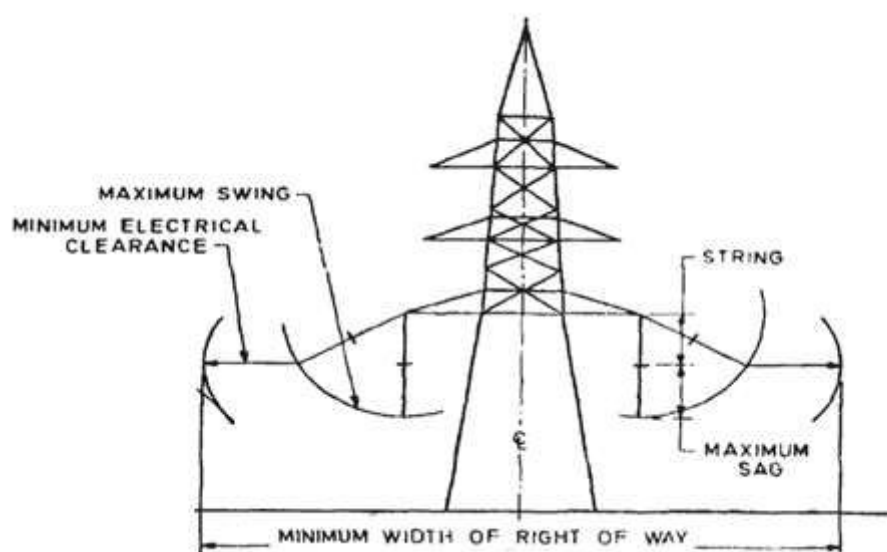

Figure-1
- (iv). The minimum electrical clearance mentioned in **Figure-1** is as per the Central Electricity Authority (Measures relating to Safety and Electric Supply) Regulations, 2023
- (v). For pole structures, the horizontal phase to phase distance i.e. twice the horizontal distance of conductor attachment point from center of Pole (X) has been taken as per data submitted by POWERGRID.
- (vi). For lattice structures, the horizontal phase to phase distance i.e. twice the horizontal distance of conductor attachment point from center of tower (X) has been taken from MoP's *report dated 16th July 2020*.